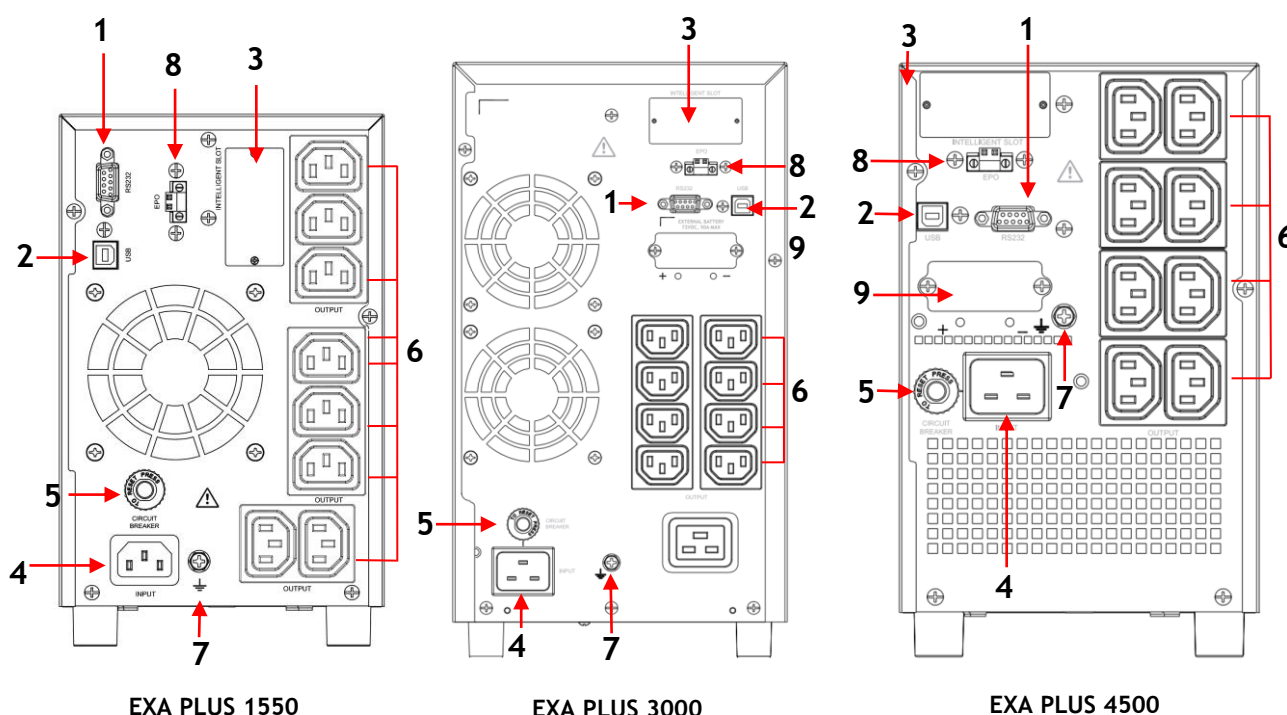

Figure 4 - Rear Side
EXA PLUS models have the EPO (Emergency Power OFF) connector on the rear side, (see figure 4).
1. Through the included power cable connect the UPS Input socket to the AC line outlet (see figure 4). **It is mandatory to ground the AC line outlet according to the Safety Standards.** Carefully check the grounding of AC line outlet.
- 3.1. Remove the metal cover (#9) on the rear side (see figure 4) to access to the Battery Box Connector.